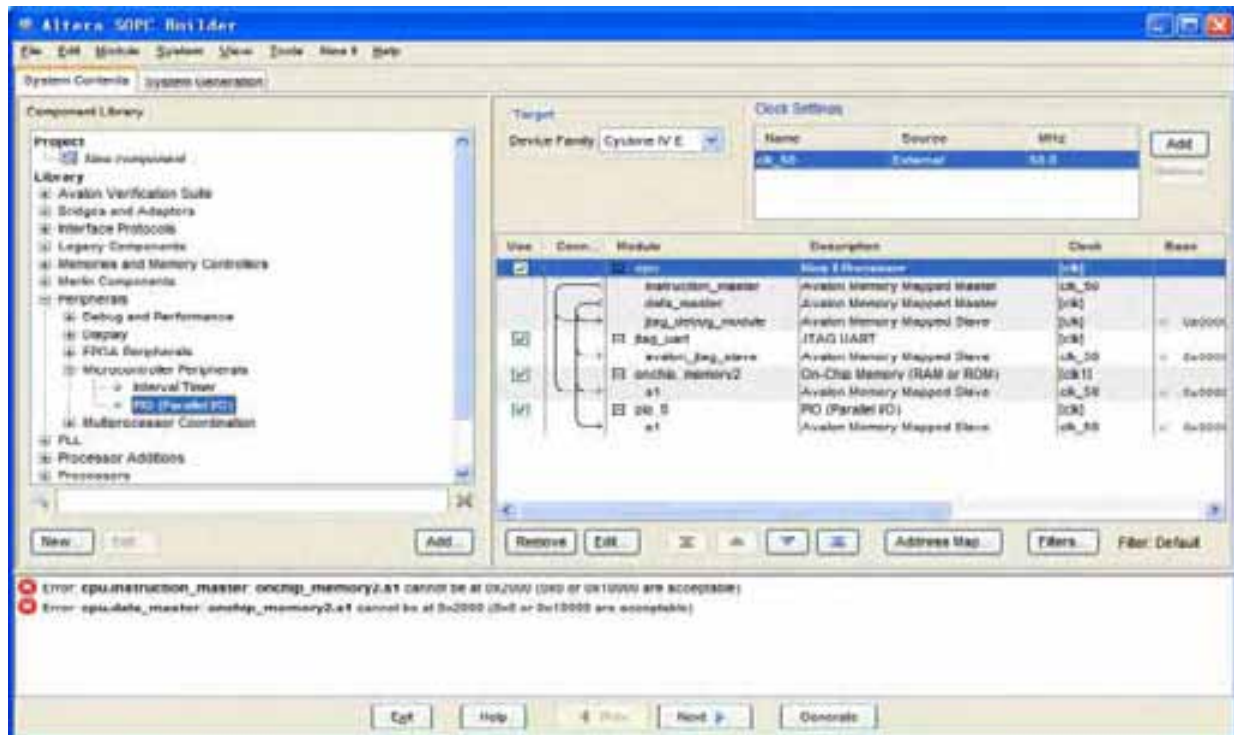

Figure 7-32 PIO
20. Click **Finish** to use the default settings for this component. This closes the PIO wizard and returns to the window shown in Figure 7-32.